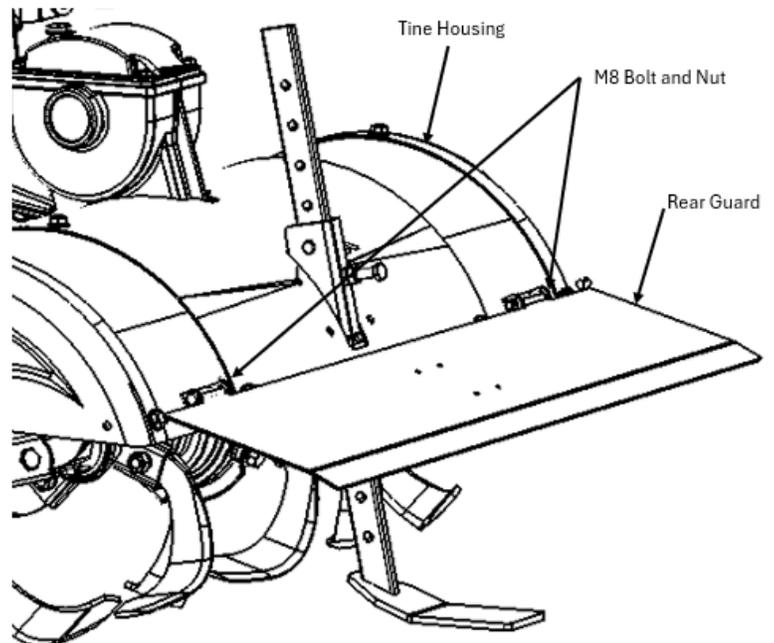

Figure 10
1. Remove the hardware from the Rear Guard using 10mm and 13mm Wrenches **(Figure 10)**.